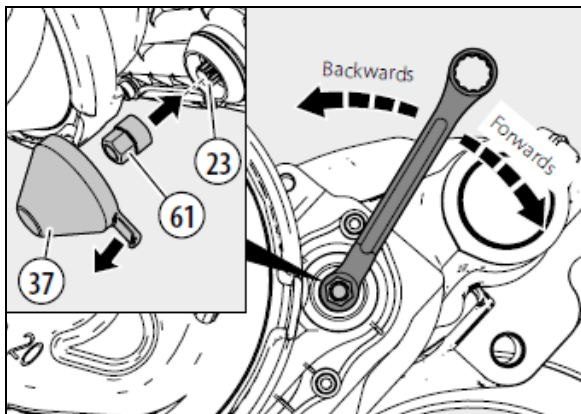

FIGURE 83: REMOVE CAP, INSERT NEW BRAKE PADS, SET THE STARTING GAP
7. Pull off the adjuster cap (37) using the tag, taking care not to lose the shear adapter (61) (see Figure 83).